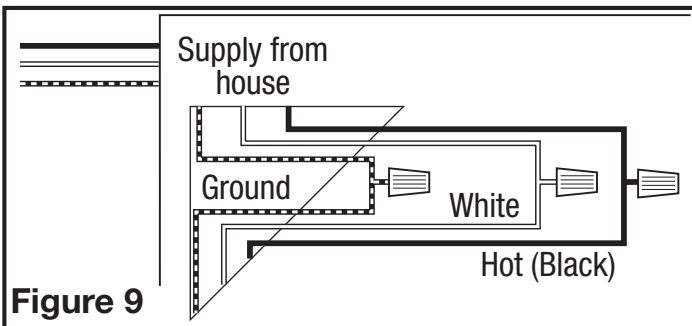

**Figure 8**
- 1b. **Internal Wire Compartment:** If the motor is already installed in the housing, remove the two screws holding the blower assembly in place. Lift up on the assembly and slide it out of the tabs on the housing (Figure 7). Remove the wire compartment cover screw and place the cover in a secure place (Figure 8).